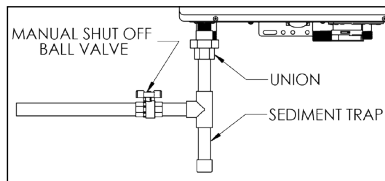

Figure 46 - Gas Line with Shut-Off and Sediment Trap Detail - Wall Model
4. The National Fuel Gas Code (NFPA 54) requires that a sediment trap (drip leg) be installed in the gas line on appliances not so equipped. The drip leg must be accessible, a minimum of 3" in length, and not subject to freezing conditions. See Figures 46 and 47.
5. A manual gas shut-off valve should be installed in the gas supply line close to the boiler. See Figures 46 and 47 for detail.